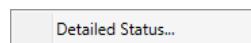

Figure 3-50 – VSL Context Menu
- **VSL Context Menu** (see Figure 3-50): This context menu allows the operator to view the status of the VSL.